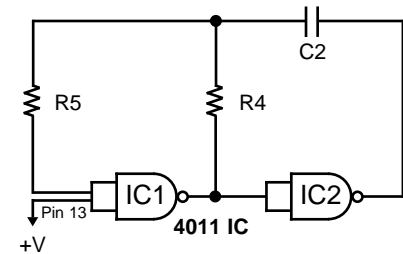

Figure 3
The Love Tester uses two oscillators. The first oscillator produces a frequency of about 20 hertz (cycles) and the other produces a frequency of about 2000 hertz. Figure 3 shows the basic oscillator circuit. The 4011 integrated circuit (IC) contains four two-input NAND gates. Two of these NAND gates are needed to form an oscillator. Feed back for this oscillator is via capacitor C2 and resistors R4 and R5. These elements determine the frequency of oscillation. Both IC1 and IC2 act as inverters, that is, when the input is low, the output is high. As long as pin 13 of IC1 is high, the circuit will oscillate. If pin 13 is brought low, the circuit will stop oscillating.